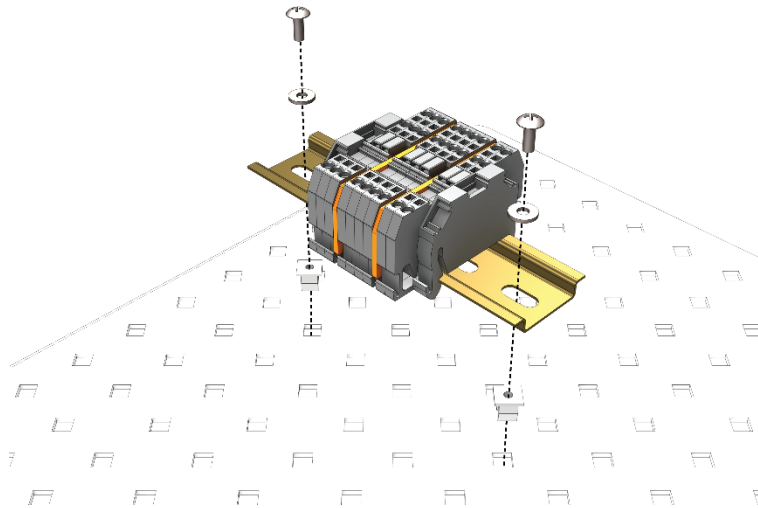

FIGURE B-5. DIN-rail bracket mounted onto an enclosure backplate
3. Mount the DIN-rail bracket onto the enclosure backplate using two 505 Screws and two 6044 Grommets (see FIGURE B-5).